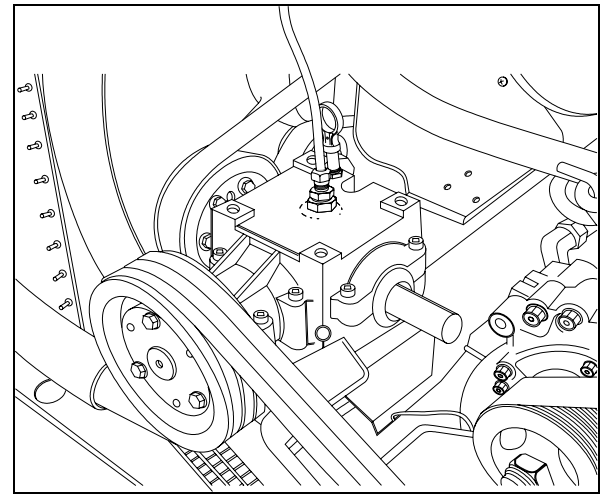

FIGURE 16: FAN GEARBOX
5. Remove the dipstick located on top of gearbox and wipe with a clean rag (Fig. 16).